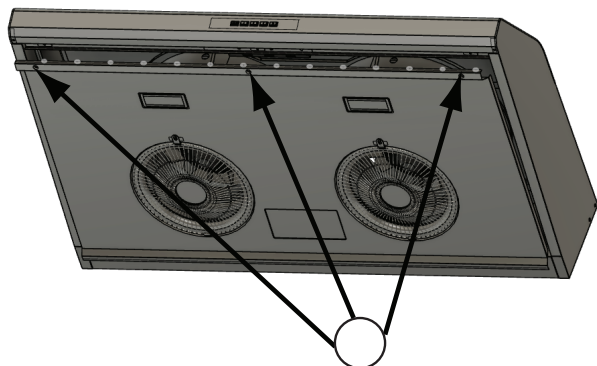

FIG. D3
1. Remove bottom panel by 3 screws (FIG. D3) and disconnect light socket connectors.